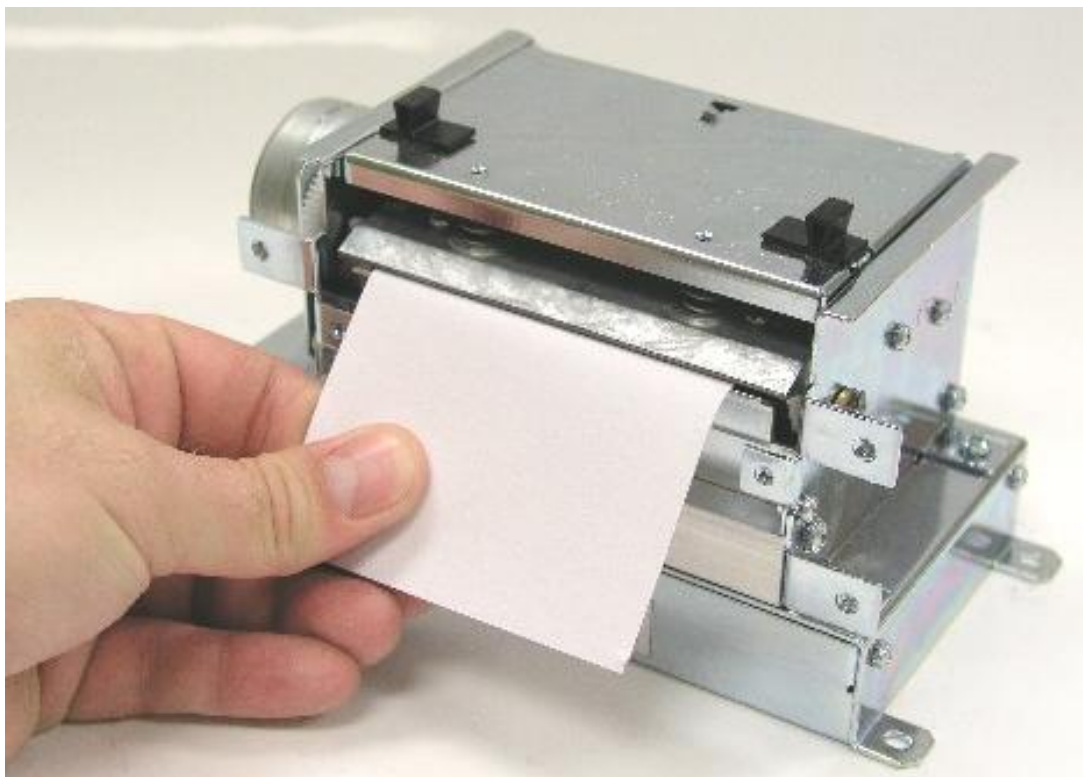

Figure 21 Removal of Thermal Card
5. Using both hands, slowly pull the card out of the printer at a 45° down angle (See Figure 21).